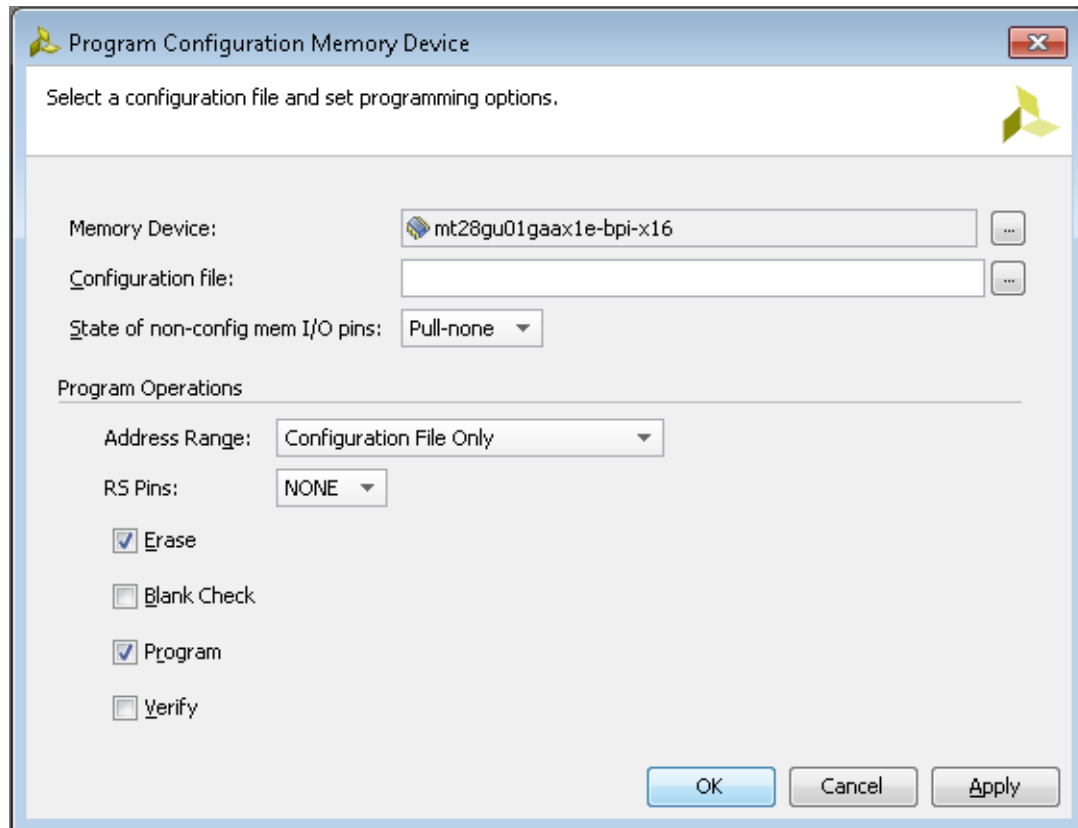

Figure A-11: Configuration Settings
12. Select the configuration file for the platform. This is the MCS file in the firmware directory. In addition, set the following settings, as shown in Figure A-11: